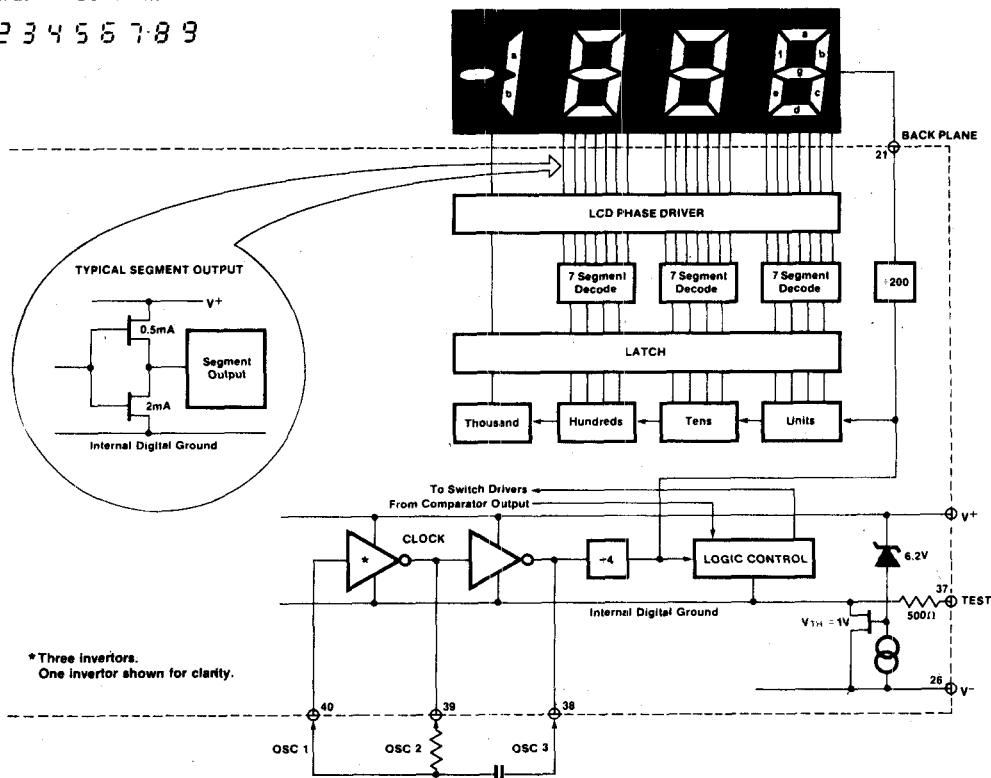

Figure 7: Digital Section
Figure 7 shows the digital section for the 7126. An internal digital ground is generated from a 6 Volt Zener diode and a large P channel source follower. This supply is made stiff to absorb the relative large capacitive currents when the back plane (BP) voltage is switched. The BP frequency is the clock frequency divided by 800. For three readings/second this is a 60 Hz square wave with a nominal amplitude of 5 Volts. The segments are driven at the same frequency and amplitude and are in phase with BP when OFF, but out of phase when ON. In all cases negligible d-c voltage exists across the segments. The polarity indication is "ON" for negative analog inputs. If IN LO and IN HI are reversed, this indication can be reversed also, if desired.